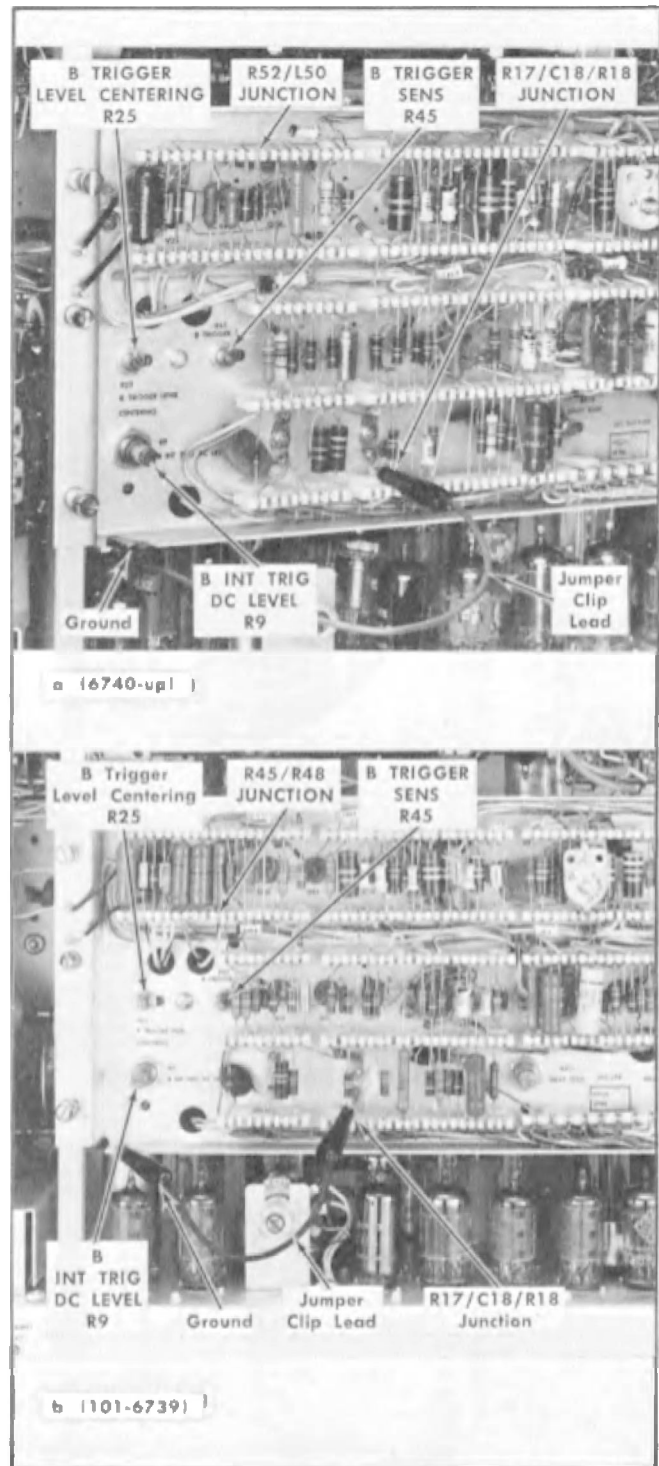

Fig. 5-7. B Trigger clip-lead connections, adjustment and test point locations.
- f. Adjust B INT TRIG DC LEVEL R9 (see Fig. 5-7) to obtain a stable display. (With the B SLOPE switch set to +, the sweep trace should start on the positive-going rise of the calibrator waveform.)